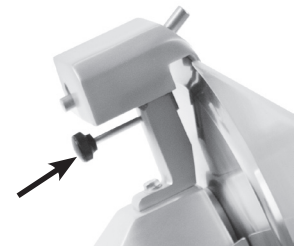

Figure 11-3
7. Remove the knife sharpener. Loosen the screw on the neck of sharpener, then lift the knife sharpener off and away from the slicer (Fig. 11-3).